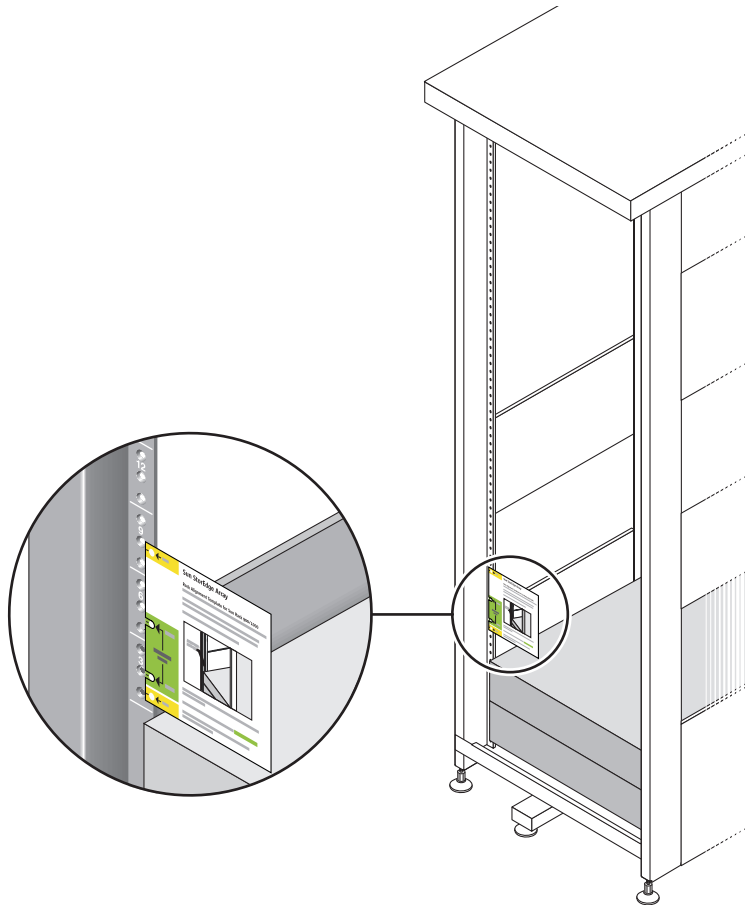

FIGURE 2-3 Positioning the Rack Alignment Template
2. Locate the proper mounting holes by placing the rack alignment template for the Sun Rack 900/1000 cabinet over the front left cabinet rail (FIGURE 2-3).